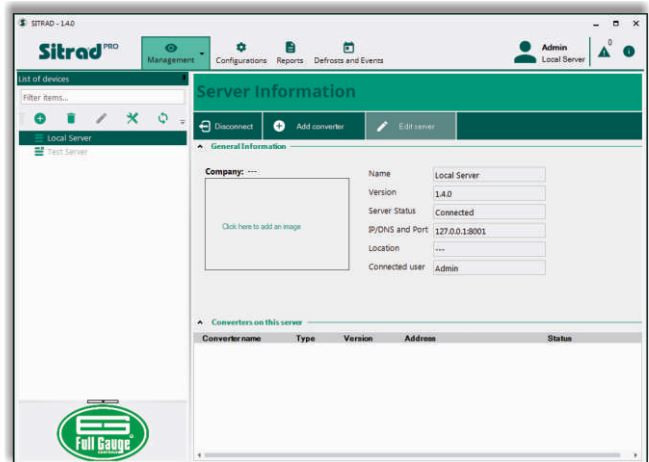

Figure 25
Step 1: Figure 25 shows the Sitrad^{PRO} Management screen. On the **Device List** tab on the left select the server where the converter will be installed. This server must be on the same network as the device. On the main **Server Information** tab, click the **Add Converter** button.